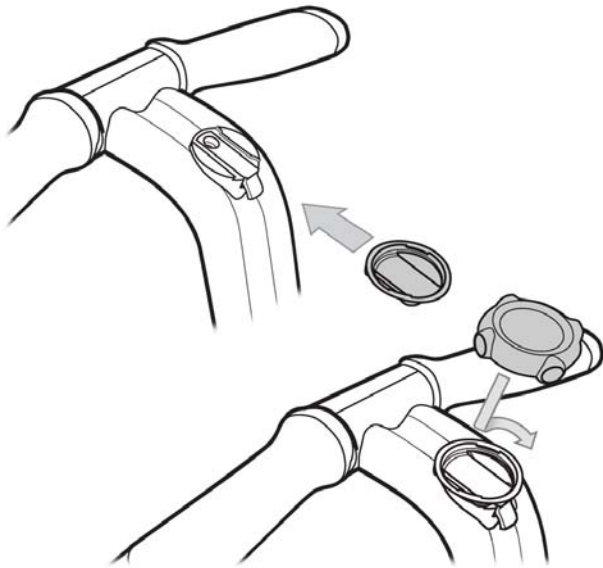

Figure 1-12: Remove or Replace Wireless InfoKey Controller on Dock Adapter Ring
2. Rotate Wireless InfoKey controller 45 degrees counterclockwise and separate from dock adapter ring. See Figure 1-12.
5. Place Wireless InfoKey controller on dock adapter ring and rotate clockwise until the Wireless InfoKey controller is locked into position. (An audible click should be detected.) See Figure 1-12.